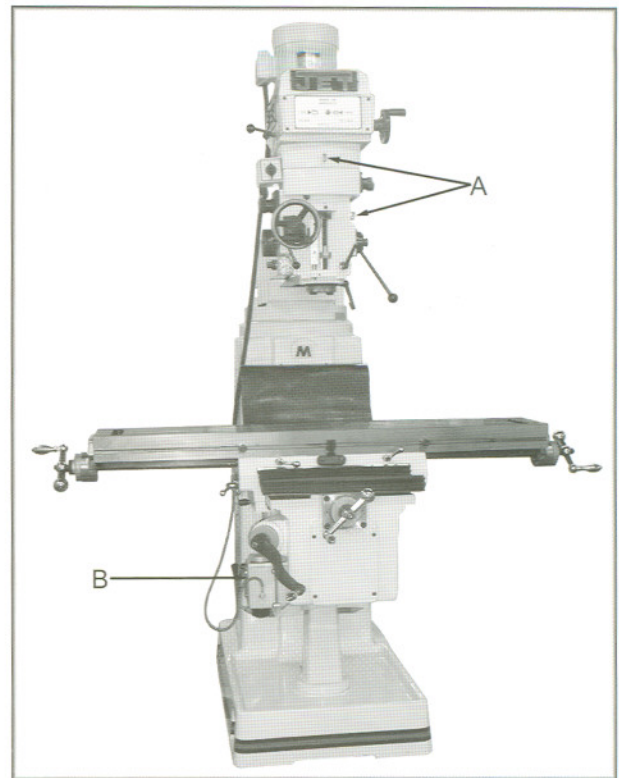

Fig. 2
3. Turn the hex head of the worm shaft (B, Fig. 2) using a 19mm socket and breaker bar. Raise the head aligning the zero marks on the scales. With the help of another person support the head while it is raising.
1. Spindle Bearings & Quill (A, Fig. 2)- fill oil cups once daily with Mobil DTE® Oil Light.
2. Oil Pump (B, Fig. 2)- fill reservoir as needed by removing cap on top of tank and filling with Mobil DTE® Oil Light. Pump oil with release handle daily. Way surfaces and leadscrews are lubricated in this manner.